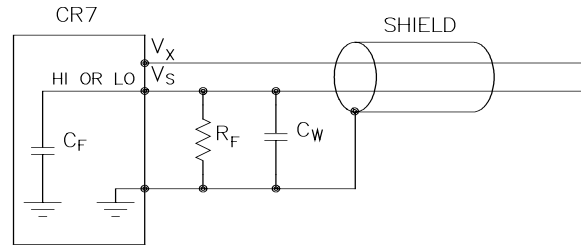

FIGURE 13.3-8. Measuring Input Settling Error with the CR7
5. Use the CR7 to measure the input settling error associated with a given configuration. For example assume long leads are required but the lead capacitance, C_W , is unknown. Configure R_f on a length of cable similar to the measurement. Leave the sensor end open as shown in Figure 13.3-8 and measure the result using the same instruction parameters to be used with the sensor. The measured deviation from 0V is the input settling error.